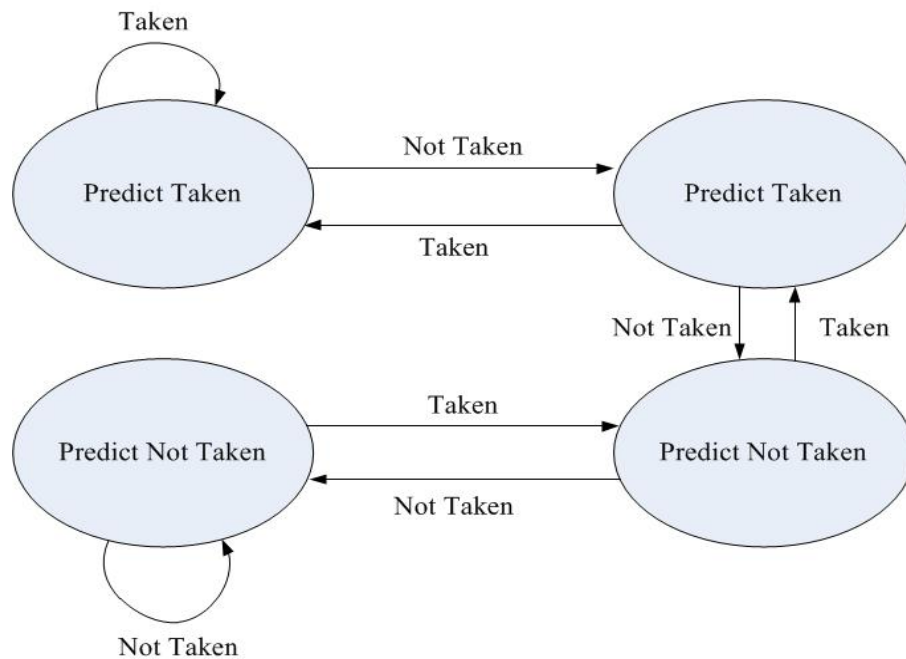

Figure 1: State Machine of 2-bit branch predictor
- 2) (3 pts.) What is the accuracy of the two-bit predictor for the first four branches in this pattern, assuming that the predictor starts off in the bottom left state (predict not taken) from Figure 1, or Figure 4.63 from the textbook (4th edition).